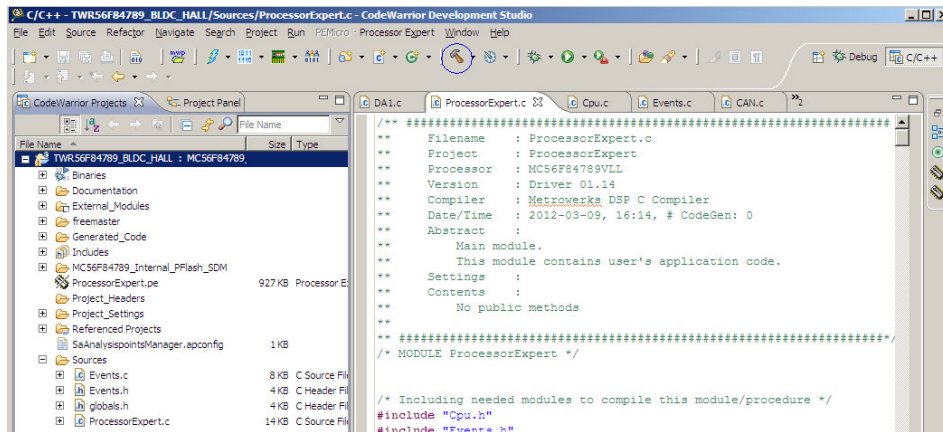

Fig.1 CodeWarrior Project for building
- 5, Click project tree of CodeWarrior project window to enable selection, then click the hammer icon of “build” command (blue circle in Fig.1) to build demo project